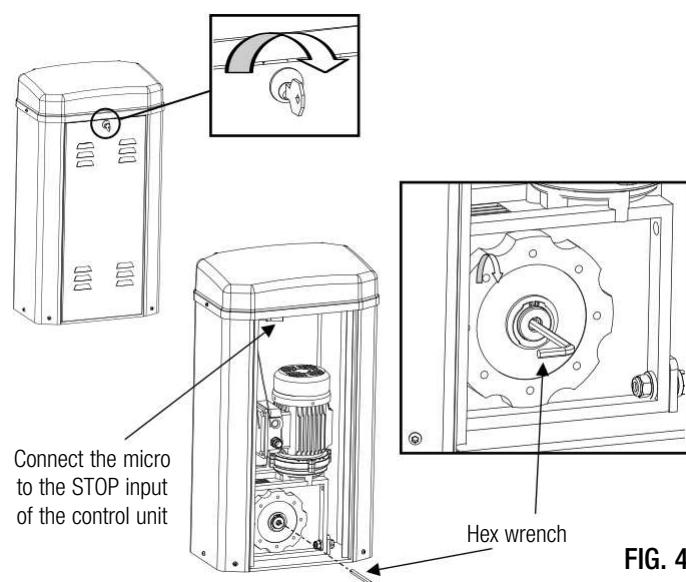

FIG. 4
- insert the hex wrench and rotate it 3 times counterclockwise (Fig. 4).